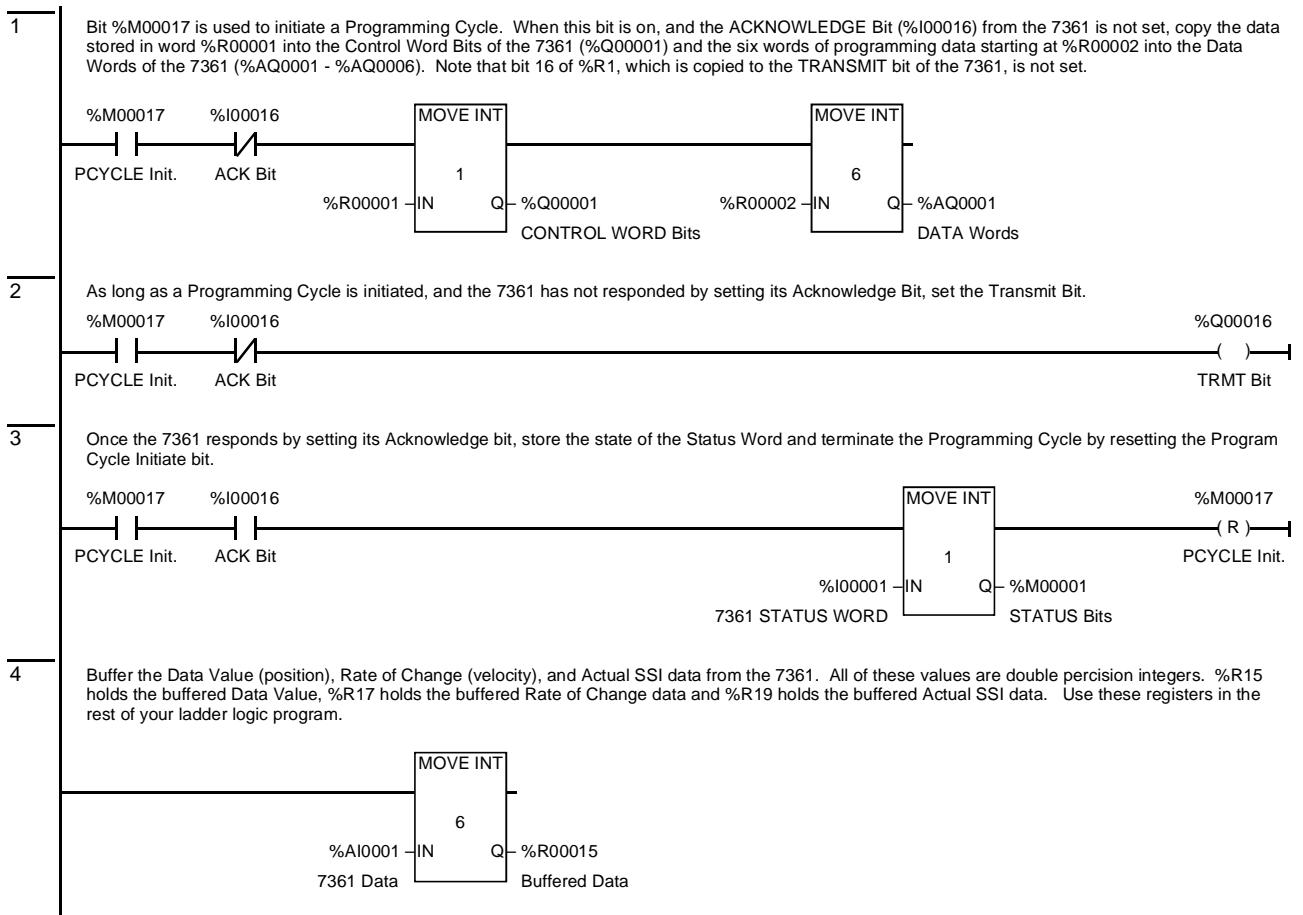

Figure 2.2 Program Cycle Ladder Logic
- 6.1) Figure 2.2 on the following page is a four rung ladder logic sample that controls a *Programming Cycle* to the 7361. (Programming Cycles are used to program the 7361 from the backplane and described in the section *Programming Cycle* on page 37 of chapter 7.